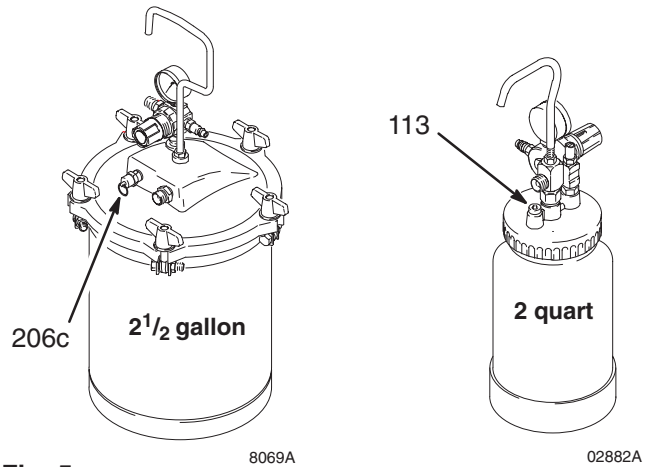

Fig. 5
1. Relieve remote pressure pot pressure as follows (see Fig. 5):